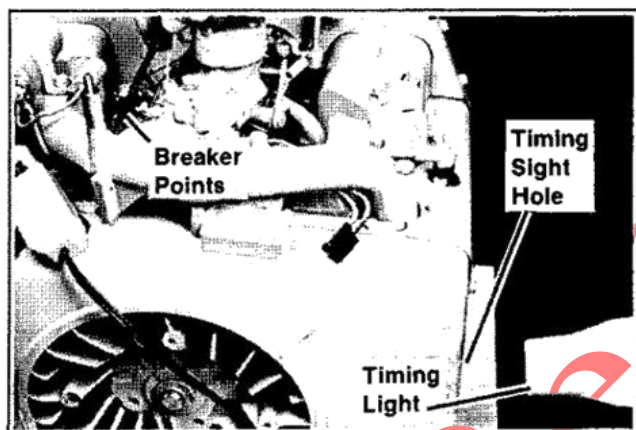

Figure 6-7. Timing Light Method
5. Start engine, run at 1200-1800 RPM, aim timing light into sight hole—light should flash just as "S" mark is opposite the roll pin in the cylinder barrel (see Figure 6-7).